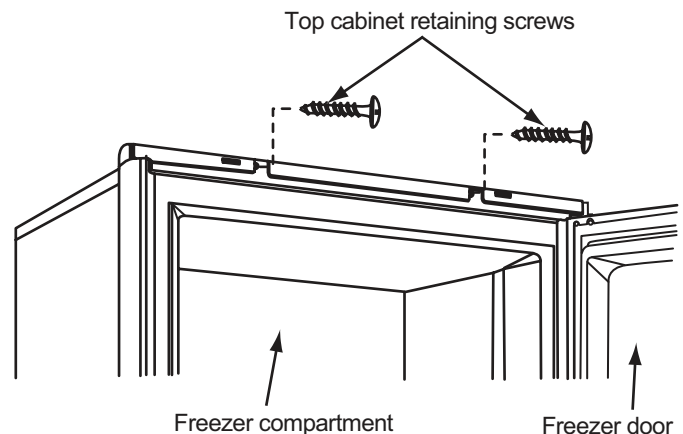

Figure 35. Top cabinet retaining screws.
11. Remove the two retaining screws from the top of the cabinet. See Figure 35, page 39.
5. Install the two retaining screws in the top of the cabinet. See Figure 35.